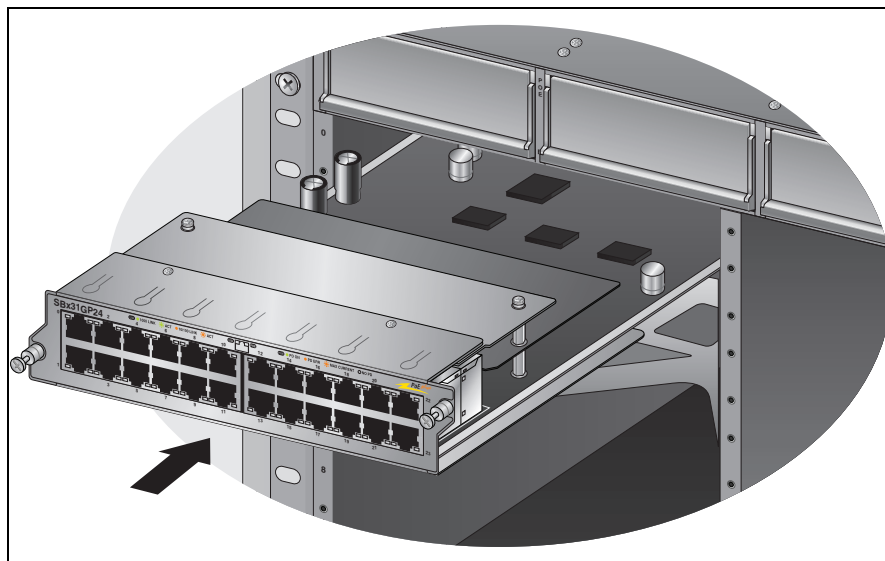

Figure 47. Inserting the AT-SBx31GP24 PoE Line Card
4. Insert the line card into the slot as displayed in Figure 47 on page 74 until the faceplate is firmly seated against the chassis front panel.